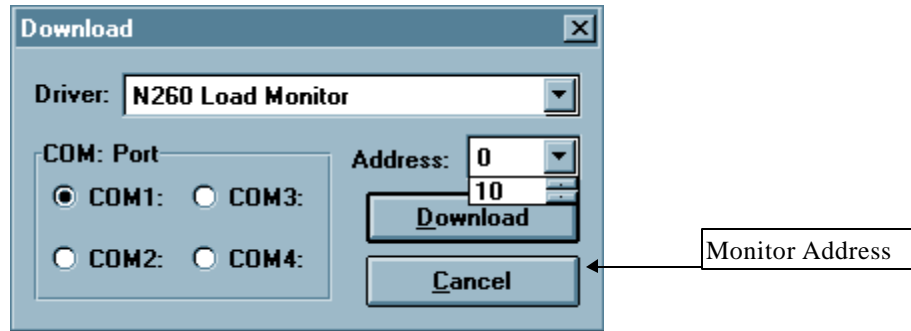

Figure 7a: Driver menu in the Download window.
6. Choose Address and input the proper monitor address. (See Fig. 7a).